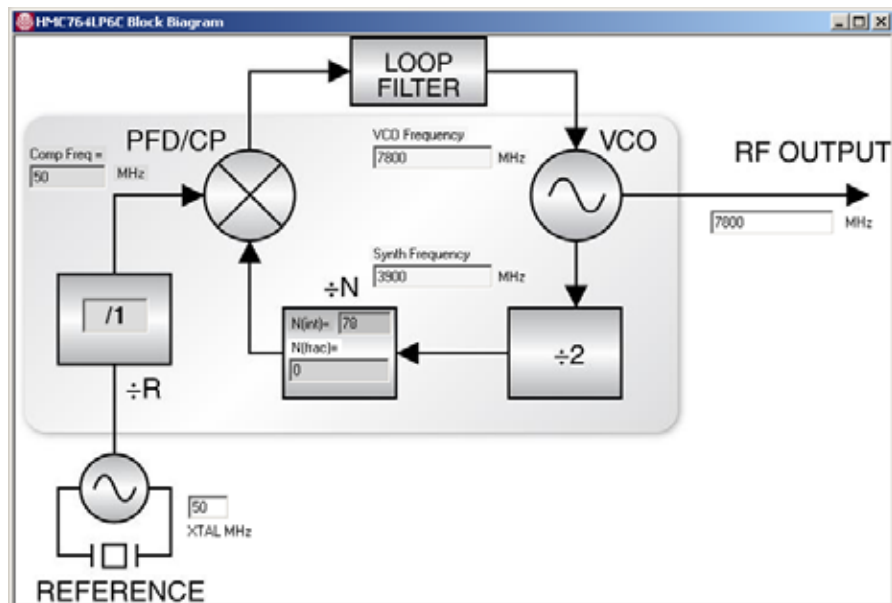

Figure 12. PLL with Integrated VCO Block Diagram
Step 8. Click “HMC PLL with Integrated VCO Block Diagram” button, the block diagram pops out as Figure 12 shown (optional to show the configuration but step not required to run the part).